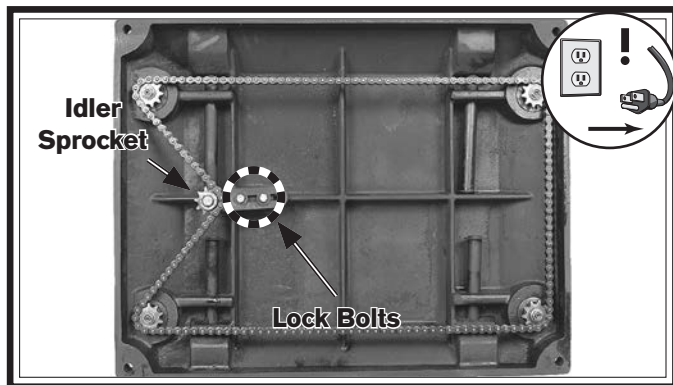

Figure 66. Location of idler sprocket and chain tension lock bolts.
3. Loosen lock bolts and idler sprocket (see **Figure 66**).